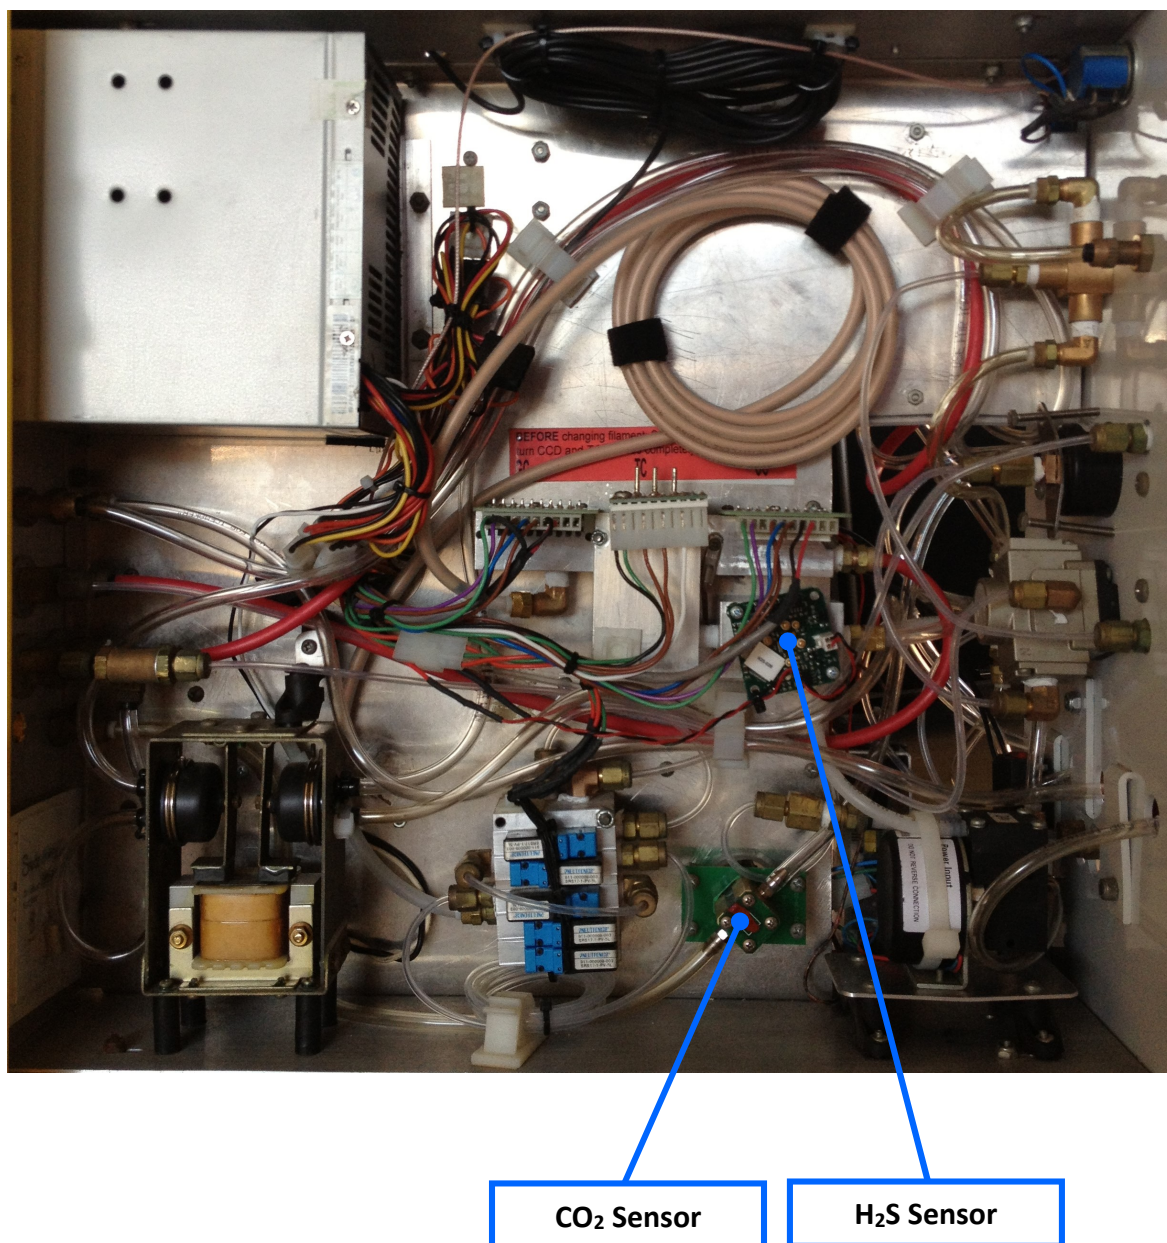

Figure 10
- b. If this networking was not connected correctly, then make the corrections and then reboot the router inside of the MLogger by disconnecting the power cable to the router (fig. 10) and leaving it disconnected for 2 minutes. Then, plug the power back in and allow a minute or so for the router to boot up and then try connecting again.
- Disconnect and reconnect the power cable to the router (fig. 10).
- e. Try rebooting the router inside of the MLogger by disconnecting the power cable to the router (fig. 10) and leaving it disconnected for 2 minutes. Then, plug the power back in and allow a minute or so for the router to boot up and then try connecting again.
- a. Disconnect the power cable to the router (fig. 10) and leaving it disconnected for 2 minutes. Then, plug the power back in and allow a minute or so for the router to boot up and then try connecting again.